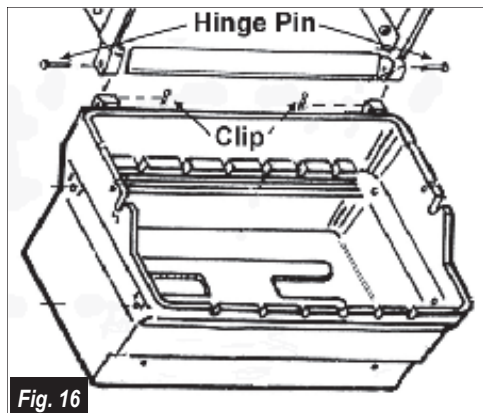

Fig. 16
1. Attach the grill lid to the grill head bottom using the two Hinge Pins and Hinge Clips. (Fig. 16)